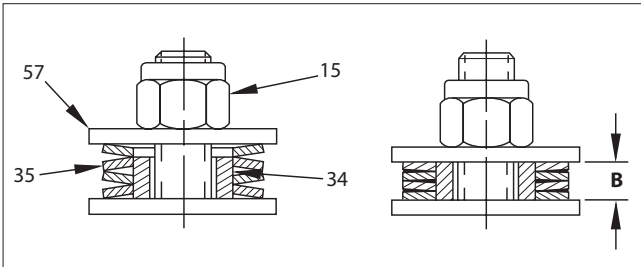

Figure 9.
11. Mount flat washers (57), disc spring spacers (34) and disc springs (35) over studs with orientation of disc springs (as shown in **Figure 9**).
12. Assemble lock nuts (15) on studs and tighten evenly alternating between locknuts until disc springs are compressed to the correct height "B" (as given in Table 5). Height "B" is determined from the height of the disc spring spacers (34). Proper load is achieved when the spacers (34) contact the flat washers (57). Over-tightening may damage seals and hamper sealing performance.
16. Place the compression ring (9) and compression plate (10) over the stem.
17. Reassemble flat washers (57), disc spring spacers (34), disc springs (35) and lock nuts (15) per steps 11 and 12 above. (See **Figure 9** for orientation of disc springs.)